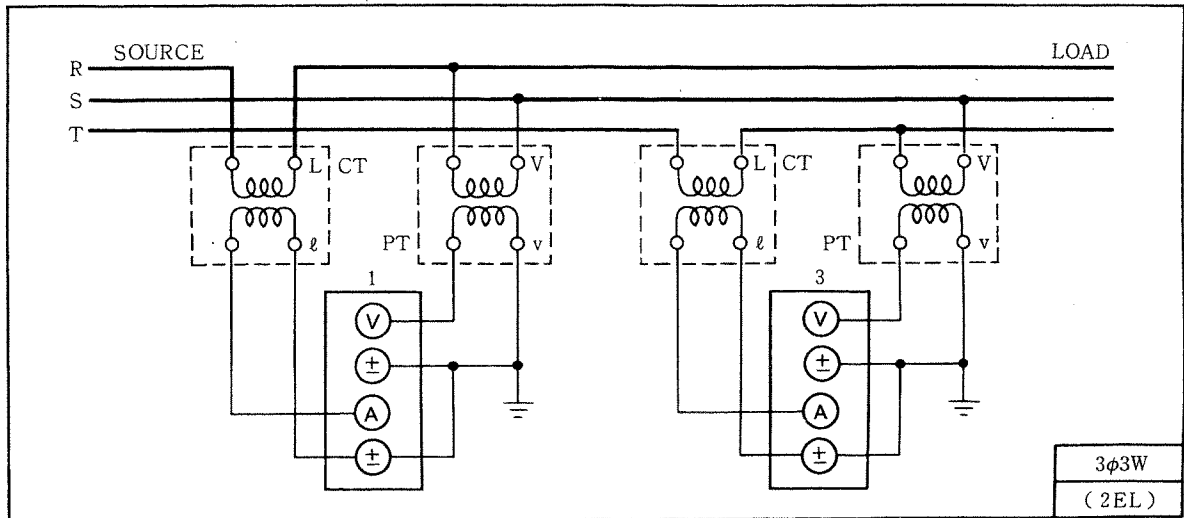

Figure 2-10.
*Reactive power (var), apparent power (VA) and power factor (PF) of the instrument are obtained by digital computation from voltage, current, effective power, etc.
(2) When both Voltage and Current Exceed Specified Measurement Ranges
As described in section 2-4-1 (2), connect an external potential transformer (PT) or current transformer (CT) according to Figure 2-10.